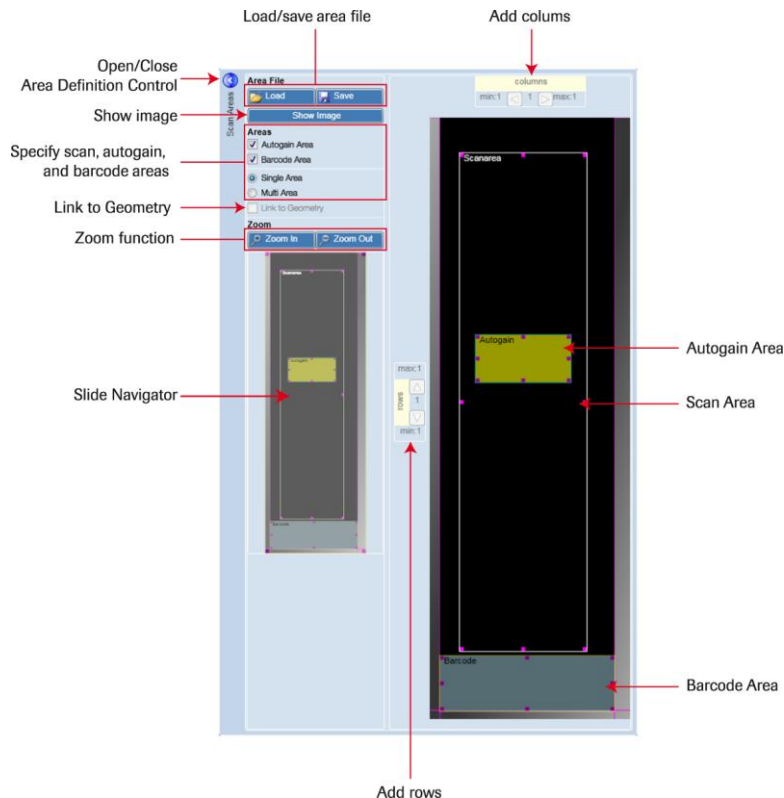

Figure 14: Components of the Area Definition Control
Use the Area Definition Control (Figure 14; denoted as *Scan Areas* in the software interface) to set scan, barcode, and autogain areas.
- Click **Open/Close Area Definition Control** button (🔍) Figure 14.